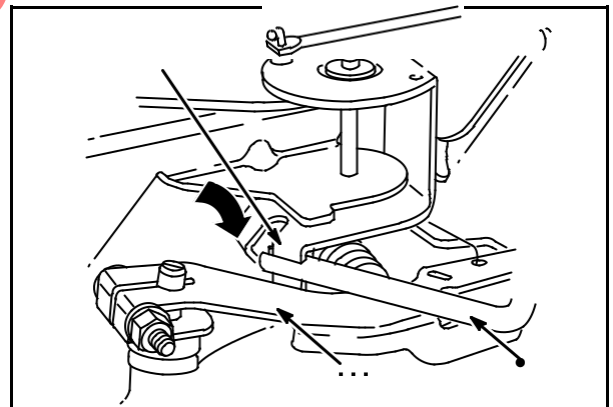

Fig. 36
Use Tool #19352 (1) to bend throttle restrictor tang (4) so that it just contacts governor lever (5), **Fig. 36**.